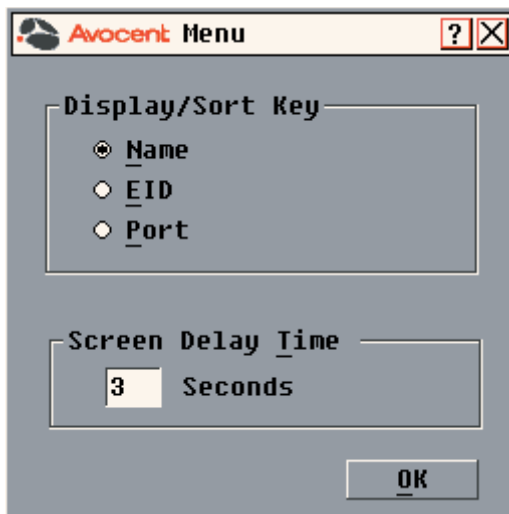

Figure 3.5: Menu Dialog Box
2. Click *Setup - Menu* in the Main dialog box. The Menu dialog box appears (see *Figure 3.5*).